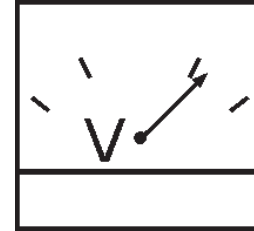

Figure 45. AC Voltmeter
- The generator's AC-voltmeter (Figure 45) displays the output voltage in **VOLTS**. If the voltage is not within the specified frequency tolerance, use the voltage adjustment control knob (Figure 46) to increase or decrease the desired voltage.